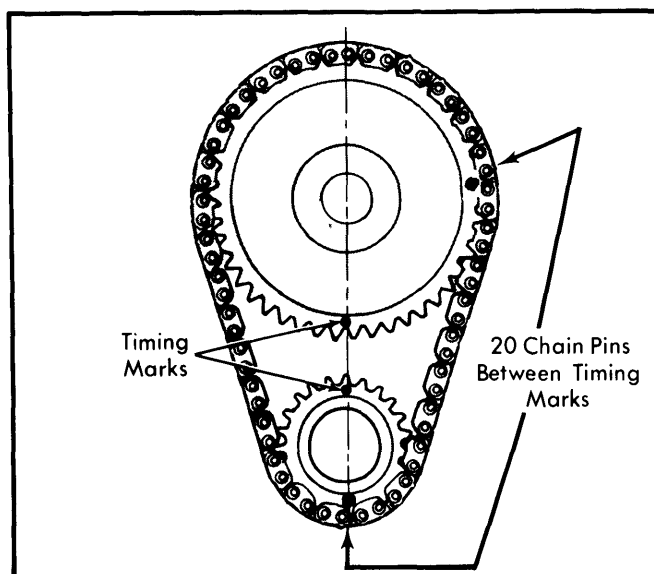

Fig. 5 Timing Chain and Crankshaft Sprocket Alignment
2) Rotate crankshaft until timing mark on sprocket is aligned with camshaft sprocket timing mark. See Fig. 5. Remove crankshaft sprocket, camshaft sprocket, and timing chain as an assembly.
Installation – 1) Assemble timing chain, crankshaft sprocket and camshaft sprocket with timing marks aligned. See Fig. 5. Install assembly to crankshaft and camshaft.
2) Turn crankshaft until timing mark on camshaft is in 3 o'clock position. Crankshaft sprocket timing mark should be pointing downward and fully meshed with chain. There should be 20 chain pins between timing marks. See Fig. 5. If not, remove chain and sprocket assembly and install once again. Replace timing chain if it deflects more than 1/2 inch.